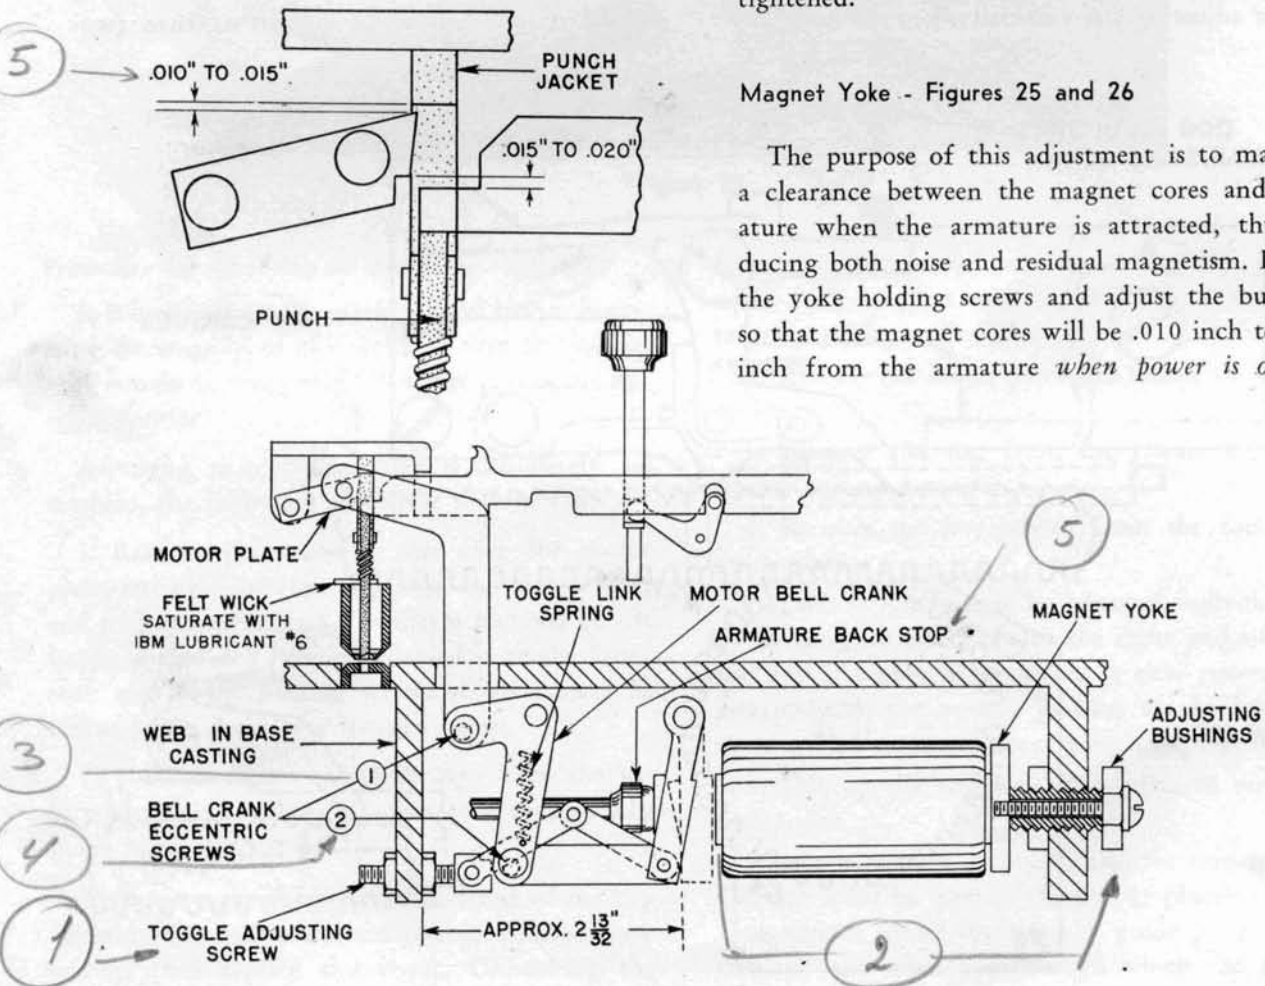
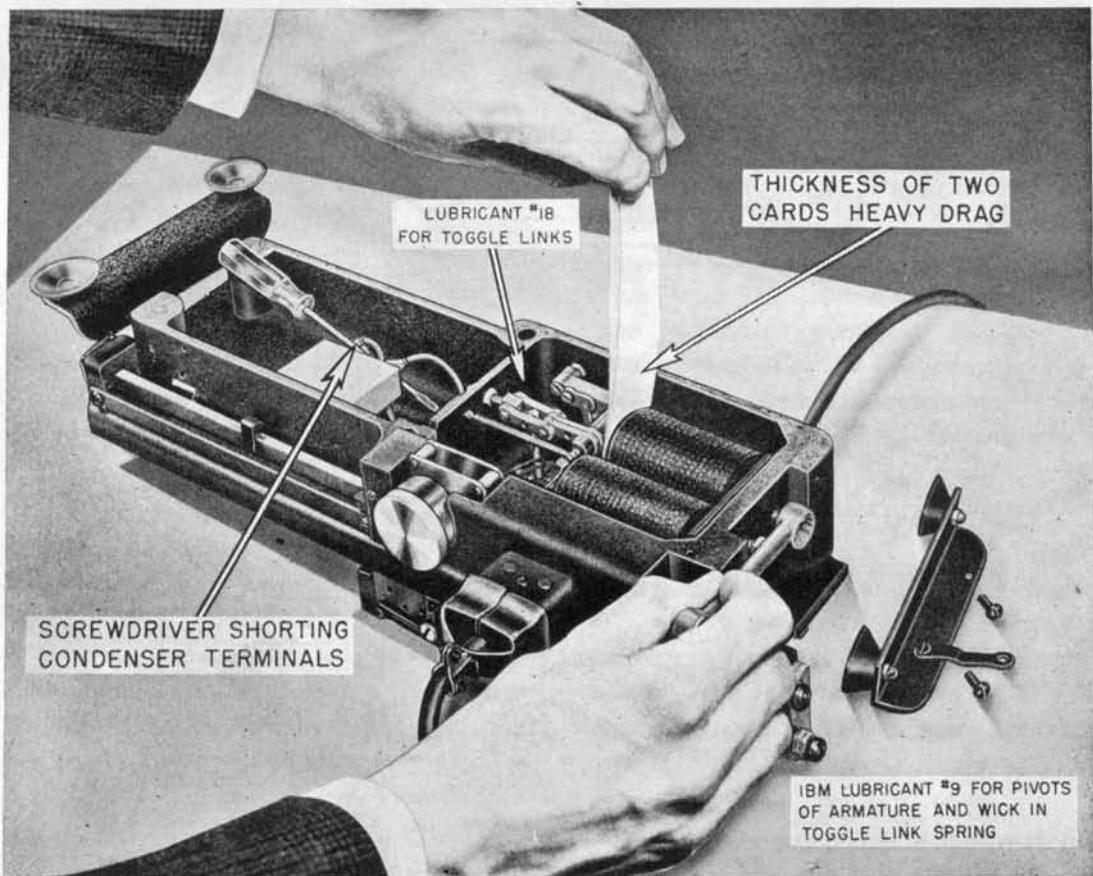

Figure 25
Figure 26
Toggle Link - Figure 25
Magnet Yoke - Figures 25 and 26
Bell Crank Eccentric Screws - Figure 25
(2), Figure 25, to a central position and tighten nut. Next, adjust upper eccentric screw (1) for an approximate .008 inch travel of punch into die. Then re-adjust lower eccentric (2) for the final accurate .008 inch adjustment. This lower eccentric may then be used at later times, if it becomes necessary to make minor adjustments because of wear.
Armature Back Stop - Figure 25
This is adjusted to obtain .010 inch to .015 inch clearance between the punch jacket and the motor plate, when the motor plate is in its upper position (insert, Figure 25). This should automatically produce a clearance of .015 inch to .020 inch between the lower edge of the motor plate and the interposer. Check at 12 and 9 punches.
- 1 - Armature right-angle on the base. To 2-13/32". Figure 25.
- 2 - Magnet Yoke. Adjusting Bushings at the end of the housing See Figures 25 and 26. 2 cards heavy drag, 1 card loose.
- 3 - Bell Cranck Adj Screw 1. Attract armature See Fig.26 and with 10 Cards between armature and punch magnet, punches should just thatching punched card in the card bed.
- 4 - Bell Cranck Adj Screw 2. Attract armature See Fig.26 and with 4 Cards between armature and punch magnet punches should just go throug the card. See also figure 25.
- 5 - Armature Back Stop. See Figure 25. Adjust for a clearance of .010" to .015" inch between motor plate and punch jacket with not energized magnets.